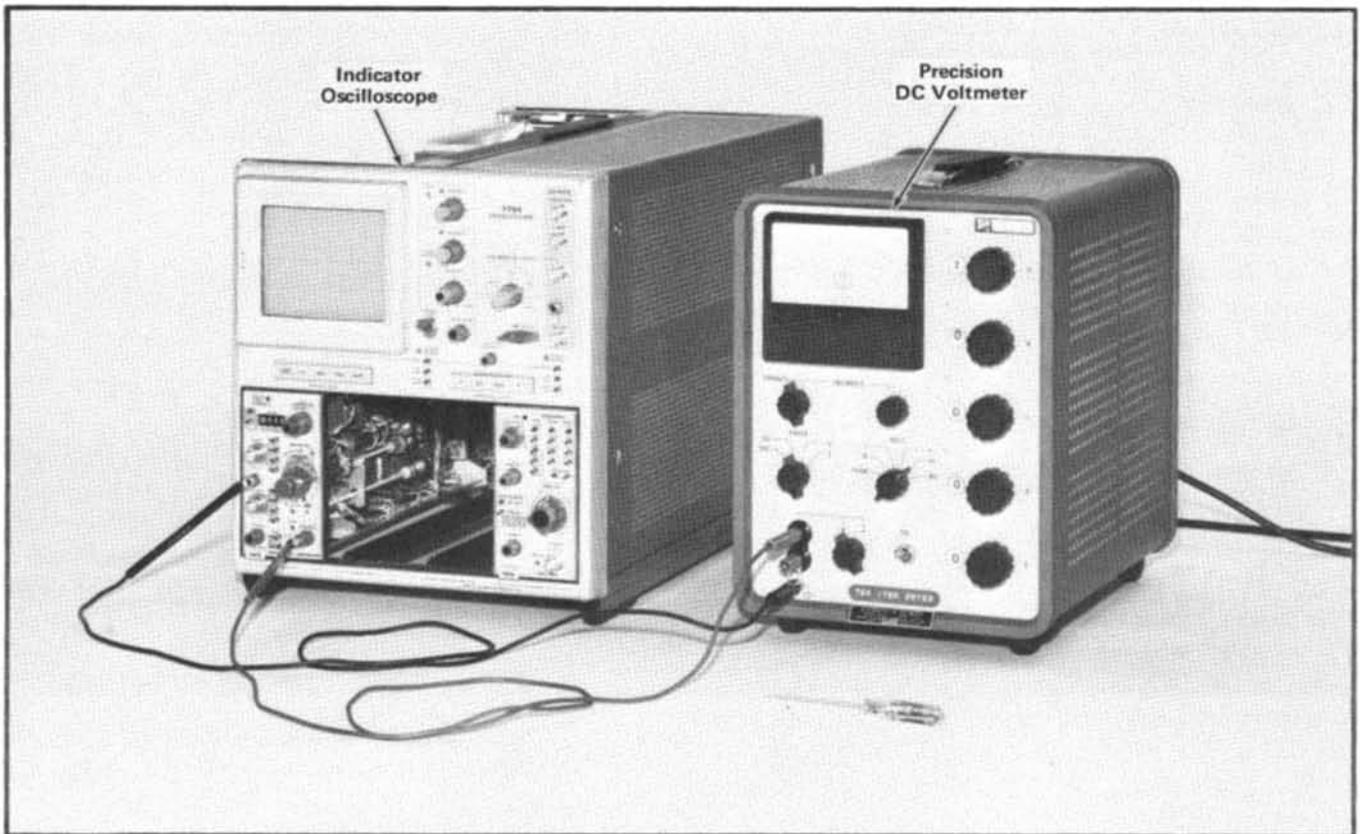

Fig. 5-26. Initial setup showing equipment required for performing steps 27 through 31.
a. Test equipment setup, with connections made at completion of step 27d, is shown in Fig. 5-26.